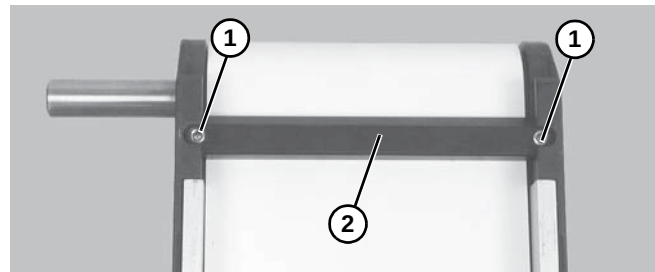

Figure 36
13. If equipped, re-install bottom wipers (**Figure 36, item 1**): Install wiper (**Figure 36, item 2**) then install screws.